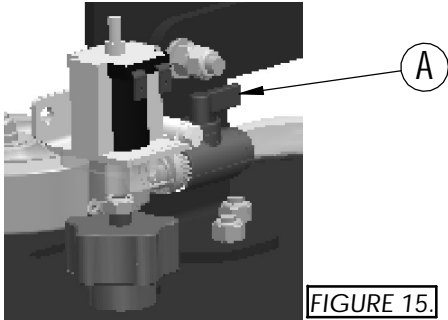

FIGURE 15.
1. TURN SOLUTION VALVE ADJUSTMENT LEVER (A) CLOCK-WISE TO INCREASE SOLUTION FLOW, COUNTER-CLOCKWISE TO DECREASE SOLUTION FLOW. (SEE FIGURE 15.)